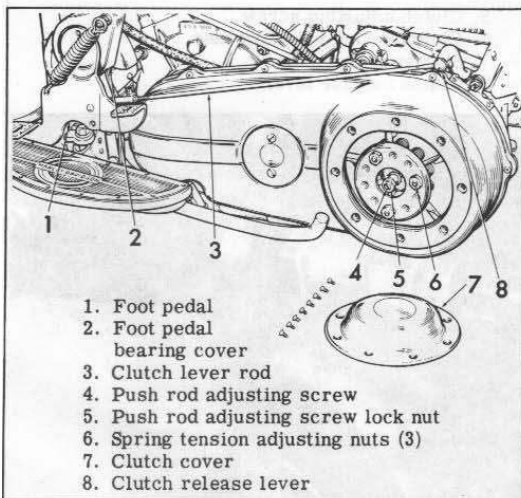

Figure 4B-1. Adjusting Foot Clutch Control (1964 model shown)
## ADJUSTING FOOT CLUTCH CONTROL (Fig. 4B-1)
## ADJUSTING HAND CLUTCH CONTROL (1968 AND LATER MODELS) FIG. 4B-1A
Measure clearance between starter motor (7) and clutch release lever (8) which should be 3/8 to 5/8 inch. If not within this range, adjust as follows: Loosen control coil adjusting sleeve lock nut (2) (Fig. 4B-1A) and turn control coil adjusting sleeve (1) all the way into bracket. Remove chain housing cover, loosen clutch push rod screw lock nut (4) and turn screw (5) in (clockwise) to move lever (8) to the rear, or outward (counterclockwise) to move end of lever forward. When 1/2 inch clearance between lever and starter motor has been attained, tighten lock nut (4) and reinstall chain housing cover.
Adjust clutch hand lever for 1/4 inch free movement before clutch starts to release by turning adjusting sleeve (1) outward and retighten lock nut (2). To disassemble cable from hand lever at anchor pin, turn sleeve into bracket (3) and remove cable from side slot as shown in figure 4B-1A. When reassembling cable ferrule in hand lever anchor pin with side slot, be sure slot is toward inside as shown. Earlier type pin with slotted end should have open end facing downward.